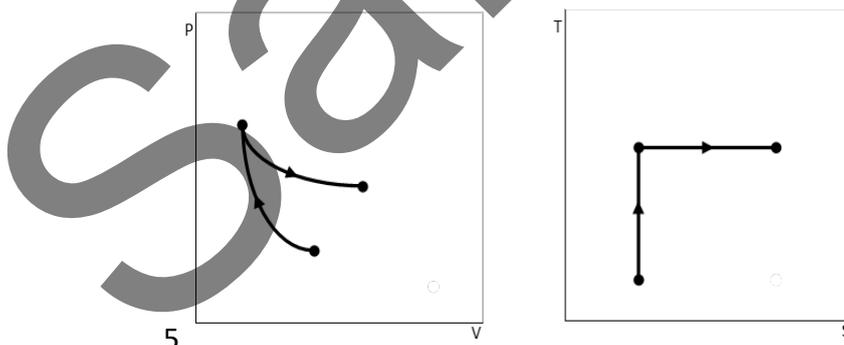

Fig.4.2: Stages 1-2-3 of the Carnot cycle
**2-3:** Fig.4.2 represents the second stage, the isothermal process means that there is a heat input, but the process also produces a work output.